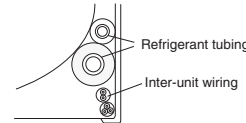

Fig. 3-67
- (3) Install the indoor unit on the rear panel.
- (4) Connect the tubing and wiring led inside from outdoors.
- (5) After completing a leak test, bundle the tubing together with armoring tape and store it inside the tubing storage area at the back of the indoor unit and hold it with clamps. (Fig. 3-67)